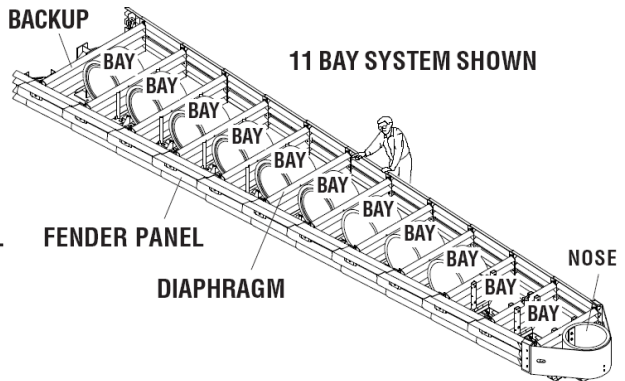

Figure 4
One Bay consists of (1) Diaphragm, (2) Fender Panels, etc. The Nose Assembly is not considered a Bay (Figure 4).